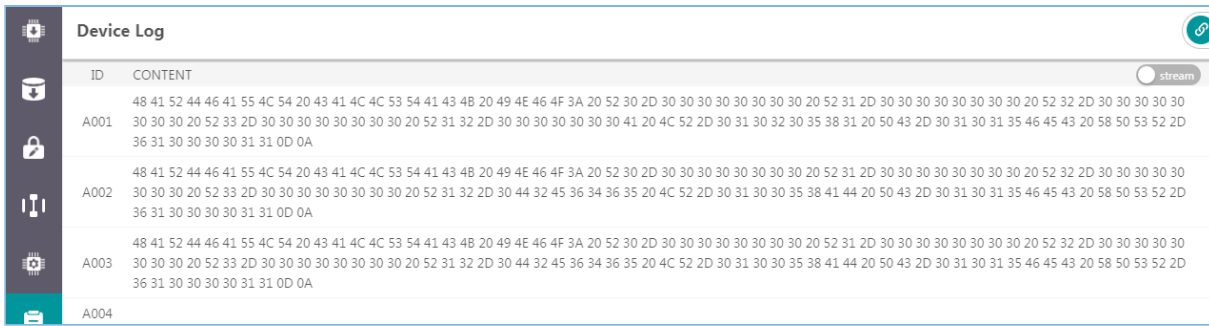

Figure 3-45 Device logs in byte streams
- **stream**: The device logs are displayed by byte stream as shown in Figure 3-45.